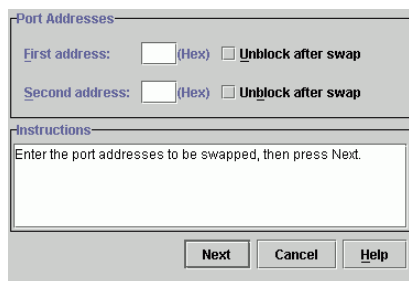

Figure 65 Swap Ports dialog box
1. Select **Swap Ports** from the **Maintenance** menu on the menu bar. The Swap Ports dialog box appears, as shown in Figure 65.